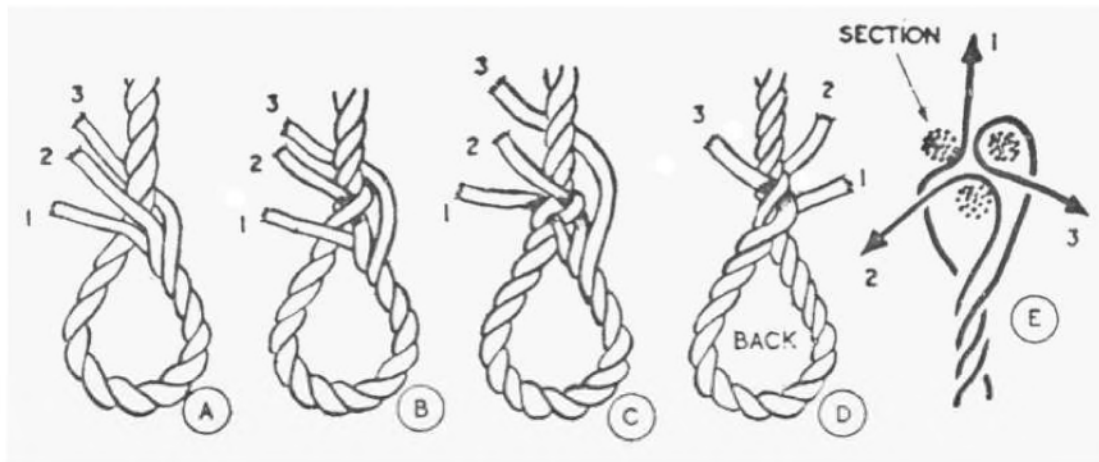

Fig. 4 – An eye splice in three stranded rope.
To make an eye splice in three-stranded rope (Fig. 4) unlay the strands for a short distance and bend the rope to form the eye, placing two end strands across at right-angles to the lay of the standing part of the rope, and the other strand behind (A). Take the centre strand under the nearest strand of the standing part (B). Take the first end strand under the next strand, going in where the second strand comes out (C). Turn the rope over and tuck the third strand under the remaining strand of the standing part, going in where the first strand comes out (D). There should now be an end strand projecting from each space of the standing part (E). This completes the first tuck.